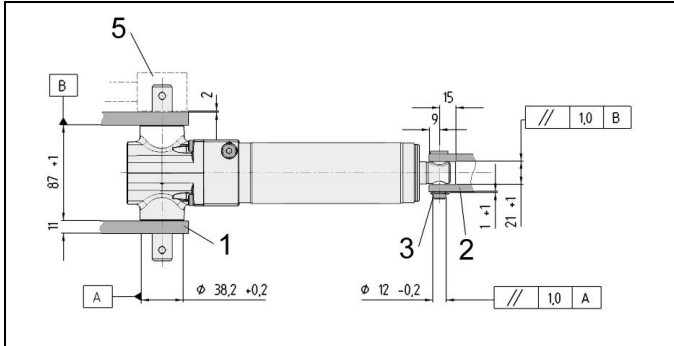

Figure 1: Standard mounting
- Mounting as described in the figures 1 to 3.